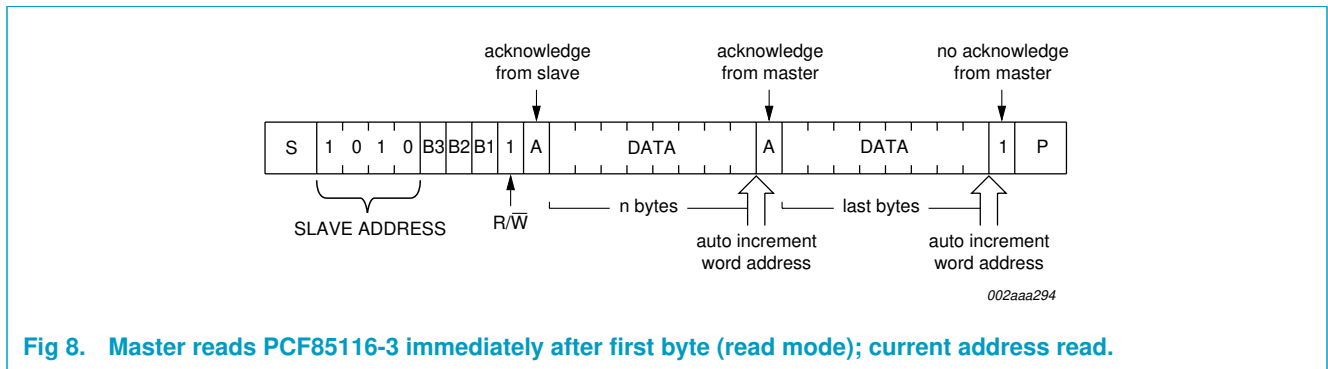

Fig 8. Master reads PCF85116-3 immediately after first byte (read mode); current address read.
**Remark:** During read operations all bits of the memory address are incremented after each transmission of a data byte. Contrary to write operations, an overflow of the memory address occurs from 2047 to 0 (see Figure 8).